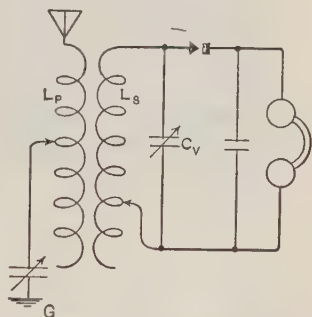

FIGURE 702. — LOOSE-COUPLED CIRCUIT.
**483. Inductively Coupled Circuits.** — The direct-coupled circuit will respond to a considerable range of wave lengths. So, if several sending stations are using nearly the same wave length, their signals will be heard more or less strongly at the same time, and confusion of receiving results. The undesired signals can be largely tuned out if an inductively coupled, or *loose-coupled* circuit is used (Figure 702). This is also called a *two-circuit* set.